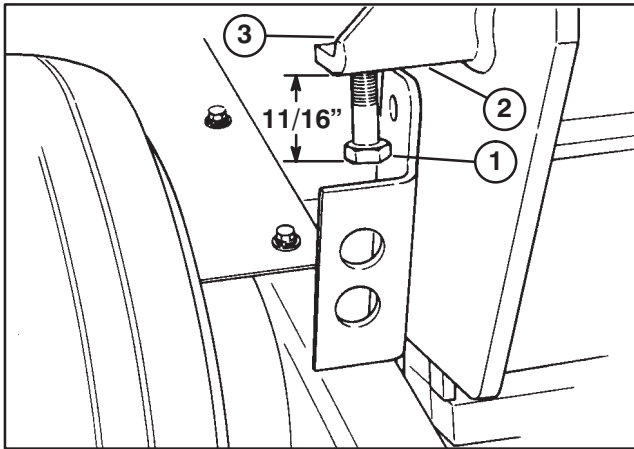

Figure 14
2. Loosen jam nut on top of adjusting bracket (Fig. 14).
3. Thread adjusting screw into bracket to increase coring depth and out to decrease depth (Fig. 14).
4. Best performance and coring depth is achieved when distance from end of screw head to bracket is 11/16" (Fig. 14).